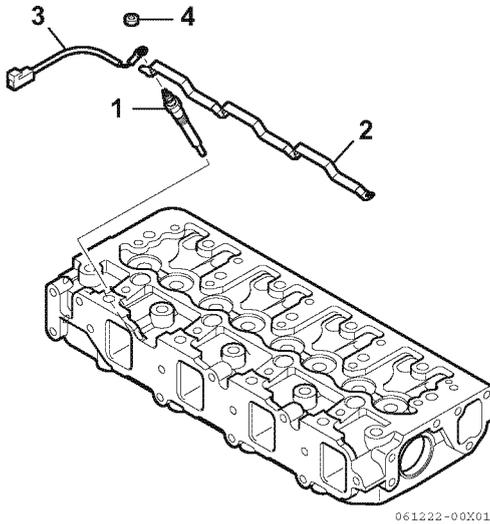

Figure 6-8
1. Remove the electric wiring harness from the glow plug wire harness (3, **Figure 6-8**), and loosen the nut (4, **Figure 6-8**) from the glow plug (1, **Figure 6-8**) to remove the glow plug connector (2, **Figure 6-8**).